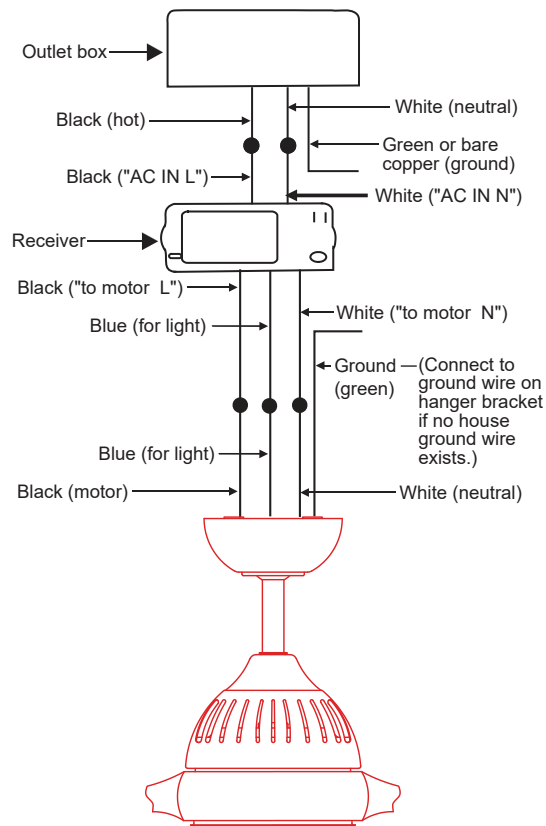

Fig. 13
Step 2. Motor to Receiver Electrical Connections: (Fig. 13) Connect the black wire from the fan to the black wire marked "TO MOTOR L" on the receiver. Connect the white wire from the fan to the white wire marked "TO MOTOR N" on the receiver. Connect the blue wire from the fan to the blue wire marked "FOR LIGHT" on the receiver. Secure all the wire connections with the plastic wire nuts provided.
Step 3. (Fig. 13) Receiver to House Supply Wires Electrical Connections: Connect the black (hot) wire from the ceiling to the black wire marked "AC in L" from the receiver. Connect the white (neutral) wire from the ceiling to the white wire marked "AC in N" from the Receiver. Secure the wire connections with the plastic wire nuts provided.
Step 4.(Fig.13) If your outlet box has a ground wire (green or bare copper) connect it to the fan ground wires; otherwise connect the hanging bracket ground wire to the mounting bracket. Secure the wire connection with a plastic nut provided. After connecting the wires, spread them apart so that the green and white wires are on one side of the outlet box and black and blue wires are on the other side. Carefully tuck the wire connections up into the outlet box.